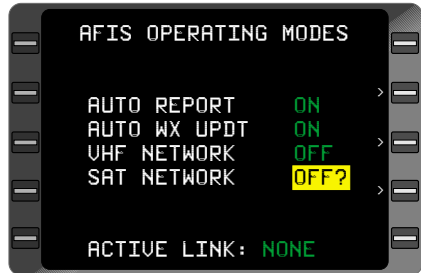

Figure 7-101
6. **ENTER** Key - DEPRESS to turn the satellite network **OFF**. (Figure 7-101)